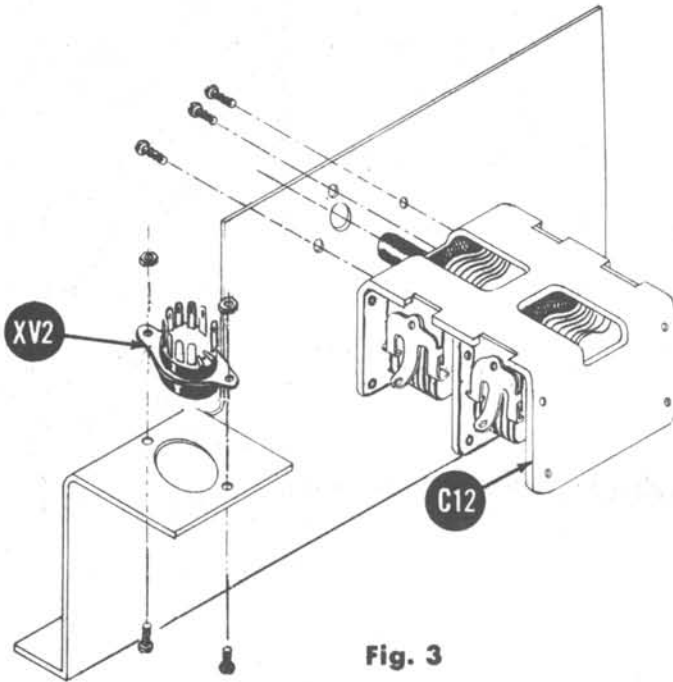

Fig. 3
- ( ) Fig. 3. Mount the tuning capacitor C12 to the sub-assembly bracket using 3 #6-32 X 1/8 screws. To protect C12 during this operation, turn the shaft fully counter-clockwise so that the rotor and stator are fully meshed.
- ( ) Fig. 3. Mount the 9-pin min. socket XV2 on the sub-assembly bracket using 2 #4-40 X 1/4 screws, 2 #4-40 hex nuts, and 2 ground lugs. Orient the socket with the blank (no pin) sector as shown in the drawing.